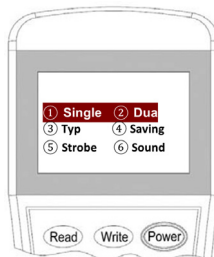

Figure 9
3. Input the “1” for **Single** Address mode or “2” for Dual Address mode then press “Write” to change the setting into the desire mode (Figure 9).